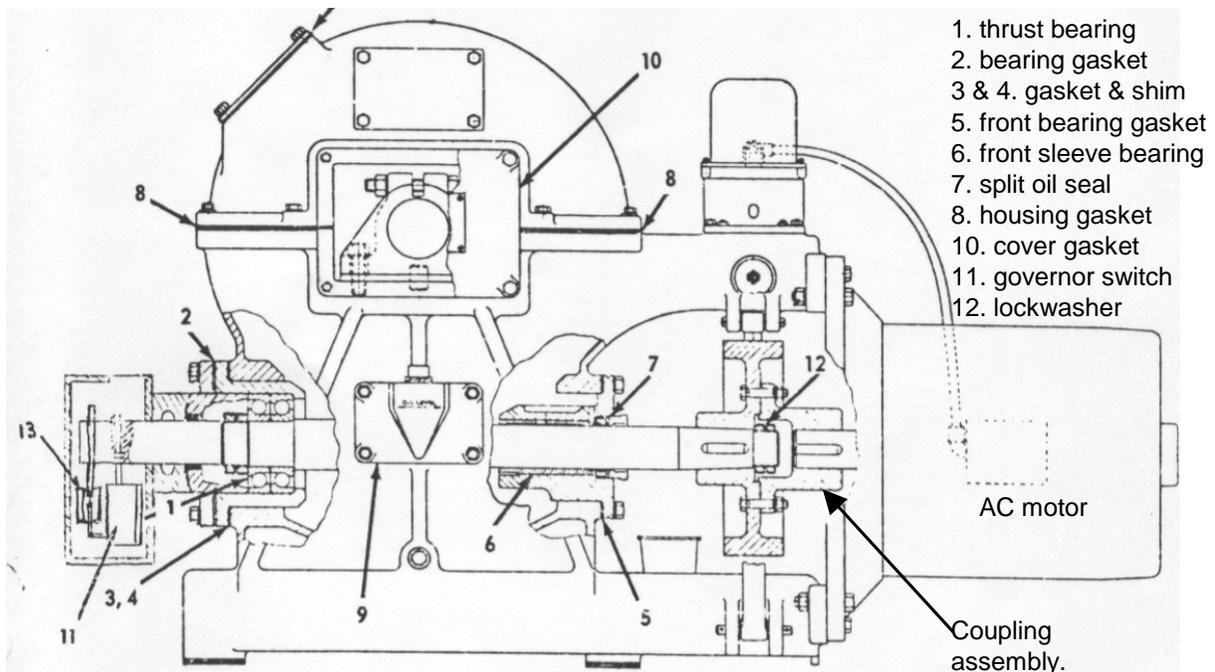

Figure 8-18b Westinghouse Escalator 38E Geared Machine Assembly
- Lubricate **sleeve bearing** where applicable (Westinghouse Escalator 38E machine figure 8-18b). Clean the surroundings of the oil cap, check and refill oil well or a carrier if less than 1/3.